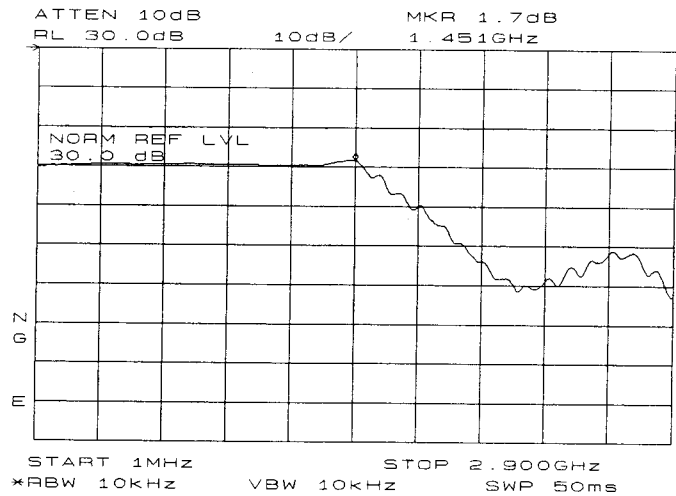

Figure 3-28. **NORM REF LVL is a trace function.**
By increasing **NORM REF LVL** to 30 dB, as shown in Figure 3-28, the trace moves down on the screen. Note the following three instrument parameters: (1) the input attenuator value still remains at 10 dB, (2) the marker-amplitude readout displays 13.2 dB, and (3) the **ERR 903 A>DLMT** error message is still displayed, even though the signal appears to be fully within the graticule.
Hence, Figure 3-28 shows that **NORM REF LVL** is a trace function that can position the active trace without changing analyzer settings. The ERR 903 A>DLMT error message is an indicator that the actual measured trace may fall outside of the analyzer's measurement range with the current settings. By adjusting **RANGE LVL**, thereby changing the input attenuator and IF gain, compression-free measurements are assured.